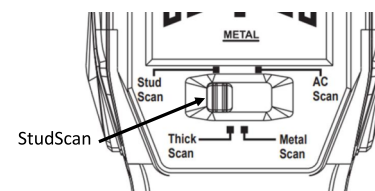
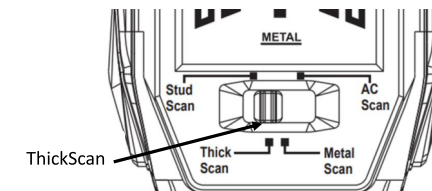

Figure 3
Figure 4
2) Selecting the detection mode: move switch to left for StudScan (Figure 3) and right for ThickScan (Figure 4).